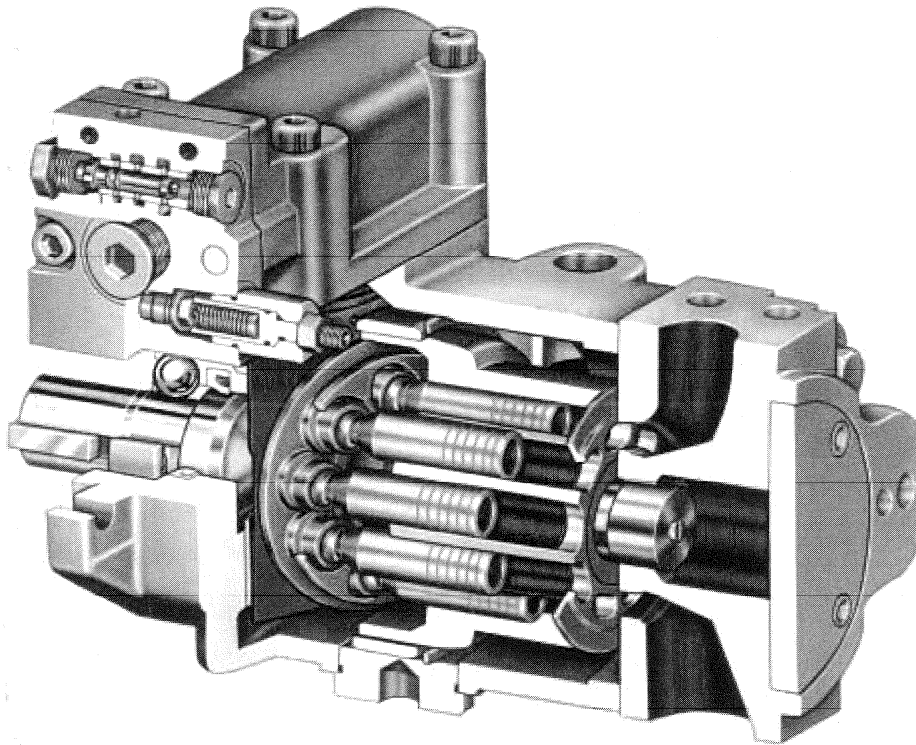

Figure 2. Cut-a-way (cross-section) of typical "PVG" Pump (92011R).
Refer to Figures 2, 9 and 10. A driveshaft (301) runs through the center line of pump housing (001) and valve plate (401) with pump cylinder barrel (101) splined to it. A bearing (306) supports the outboard end of the driveshaft and a bushing (402) is part of valve plate assembly) supports the inboard end. The pump cylinder barrel is carried in a polymerous (journal type) cylinder bearing (202). The valve plate (401) has two crescent shaped ports. Pumping piston/shoe assemblies (102) in the cylinder barrel are held against a swashblock (201) by a shoe retainer (104). The shoe retainer is held in position by the fulcrum ball (103) which is forced outward by shoe retainer spring (105). The spring acts against the pump cylinder barrel forcing it against the valve plate while also forcing the piston shoes against the swashblock. The semi-cylindrical shaped swashblock limits the piston stroke and can be swivelled in arc shaped saddle bearings (204). The swashblock is swivelled by a control (covered in referenced material).